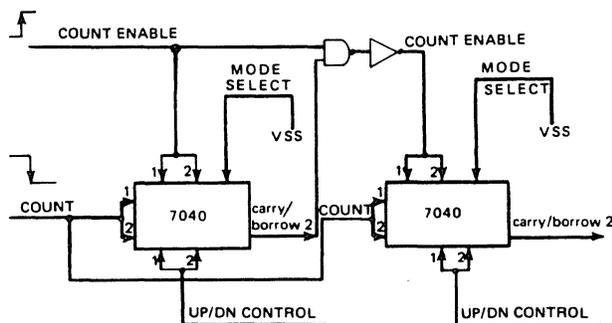

FIGURE 2 - SYNCHRONOUS 12 DECADE COUNTER
**COUNT ENABLE** A high input will permit counting. A low input will inhibit counting and the counter will remain at its last count. When using as a 6 decade counter, Count 1 Enable and Count 2 Enable must be tied together. See Figures 2 through 4.